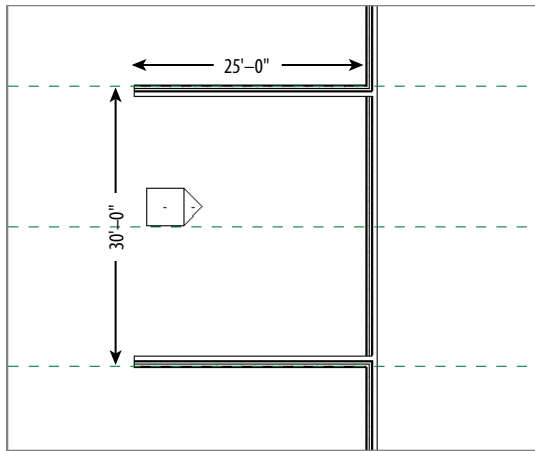

FIGURE 2.7: The two walls drawn here are 30' (9000mm) from inside finish face to inside finish face.
9. Do the same for the other side. Your plan should now look like Figure 2.7.